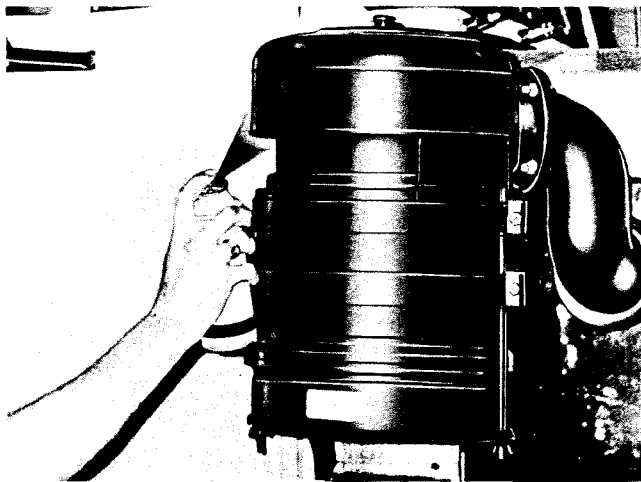

Fig. 1-8, (N11807). Ether spray application
1. Spray ether into air cleaner intake, Fig. 1-8, while second man cranks the engine.